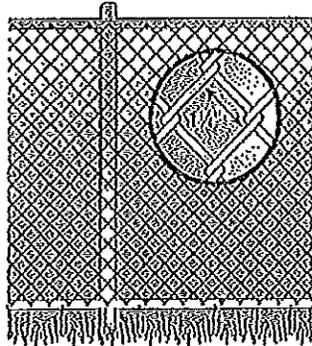

Figure 5
8. Maximum mesh size for chain link fences should not exceed 1 3/4 inch square unless the fence is provided with slats fastened at the top or the bottom which reduce the openings to no more than 1 3/4 inches (figures 5 and 6).